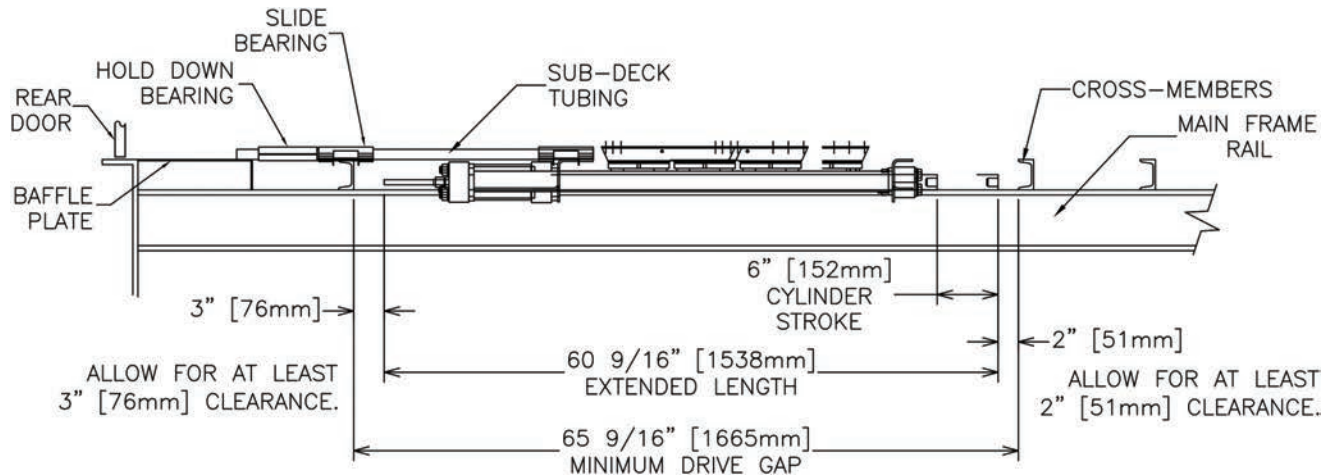

Figure 5
- 3) Choose the location at which the drive unit will be installed and leave an adequate gap in the cross-members (Figure 5). The drive unit is normally installed as close to the rear of the trailer as is practical. Ideally, there should be one cross-member between the baffle plate and drive unit, with enough space for a slide bearing and a hold down bearing. (See below for more information about baffle plate installation). Note that in applications where a trailer is being used on uneven surfaces, it may be preferable to install the drive as far forward as possible in order to reduce the risk of the drive unit contacting the ground (e.g. agricultural trailers).